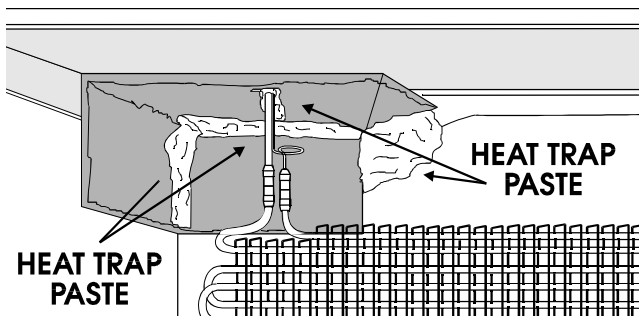

Fig. 4
- Seal the corners and the slot cut for the heat exchanger with heat trap paste. (Fig. 4)
- Cover the plastic liner with heat trap paste anywhere it may be exposed to an open torch flame. (Fig. 4)